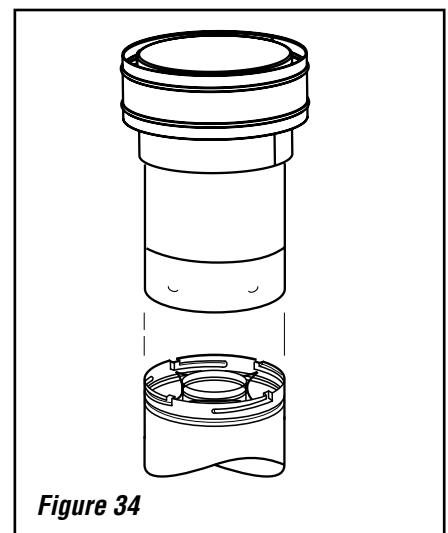

Figure 34
K. Install the vertical termination - The final step involves installation of the SV4.5CGV-1 Vertical Termination. Extend the vent sections to the height as shown in the "Vertical vent termination section" on **Page 6**. The SV4.5CGV-1 Vertical Termination (**Figure 34**) installs in the exact same fashion as any other **Secure Vent** section. Align the termination over the end of the previously installed section, adjusting the radial alignment until the four locking dimples of the termination are aligned with the inlets of the four incline channels of the last vent section. Push the termination down until it fully engages, then twist the termination clockwise running the dimples down and along the incline channels until they seat at the end of the channels.